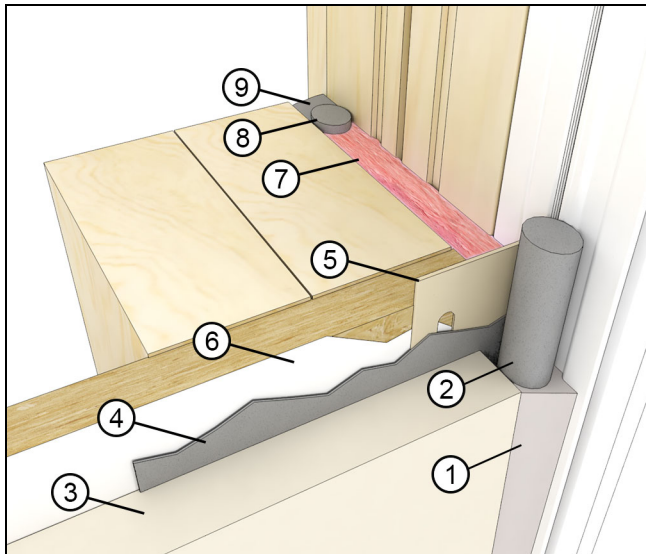

Figure 22
1. For ALL applications: Once the exterior finish such as siding or brick veneer is installed, apply bead of sealant between the finish and the frame exterior or casing along the sides. Apply additional beads approximately 1"- 2" (25-51) at the ends on top of the drip cap. Use a backer rod when necessary. See Figure 22 and Figure 23.